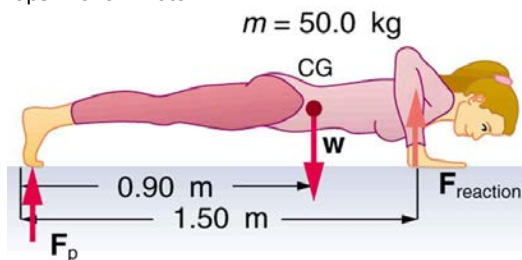

Figure 9.46 A woman doing pushups.
37. (a) What force should the woman in **Figure 9.46** exert on the floor with each hand to do a push-up? Assume that she moves up at a constant speed. (b) The triceps muscle at the back of her upper arm has an effective lever arm of 1.75 cm, and she exerts force on the floor at a horizontal distance of 20.0 cm from the elbow joint. Calculate the magnitude of the force in each triceps muscle, and compare it to her weight. (c) How much work does she do if her center of mass rises 0.240 m? (d) What is her useful power output if she does 25 pushups in one minute?